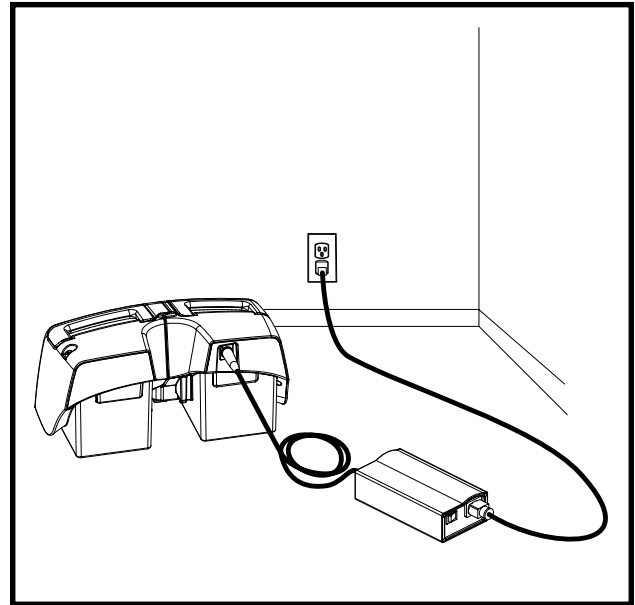

Figure 10B. Off-board Charging - Battery Boxes Removed From Scooter
1. Remove the battery boxes from the scooter and place them on a flat, dry surface in exactly the same positions as they are on the scooter. **See figure 10B.** Refer to VII. “Disassembly and Assembly” for information on how to remove and position the battery boxes.